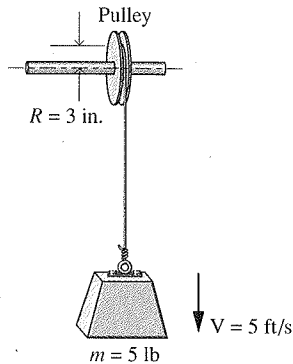

Fig. P2.42
- 2.42 Figure P2.42 shows an object whose mass is 5 lb attached to a rope wound around a pulley. The radius of the pulley is 3 in . If the mass falls at a constant velocity of 5 ft/s , determine the power transmitted to the pulley, in hp , and the rotational speed of the shaft, in revolutions per minute (RPM). The acceleration of gravity is 32.2 ft/s^2 .